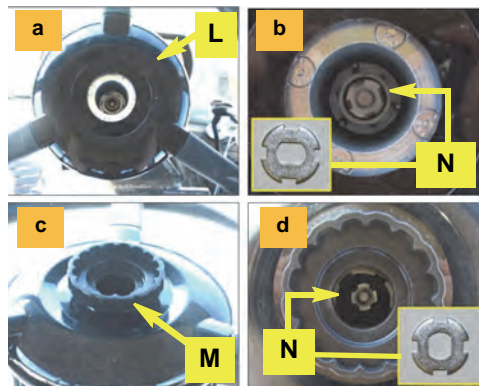

Figure 6a (a-d): Column telescoping actuator installation
- The steering wheel center cover **L** over the steering wheel hub (Figure 6a-a).